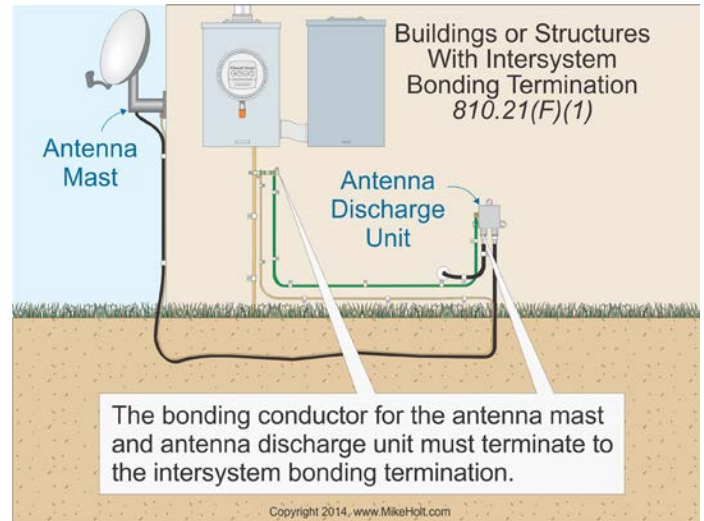

Figure 810-13
(1) Buildings With an Intersystem Bonding Termination. The bonding conductor for the antenna mast and antenna discharge unit must terminate to the intersystem bonding termination as required by 250.94 [Article 100 and 250.94]. Figure 810-13